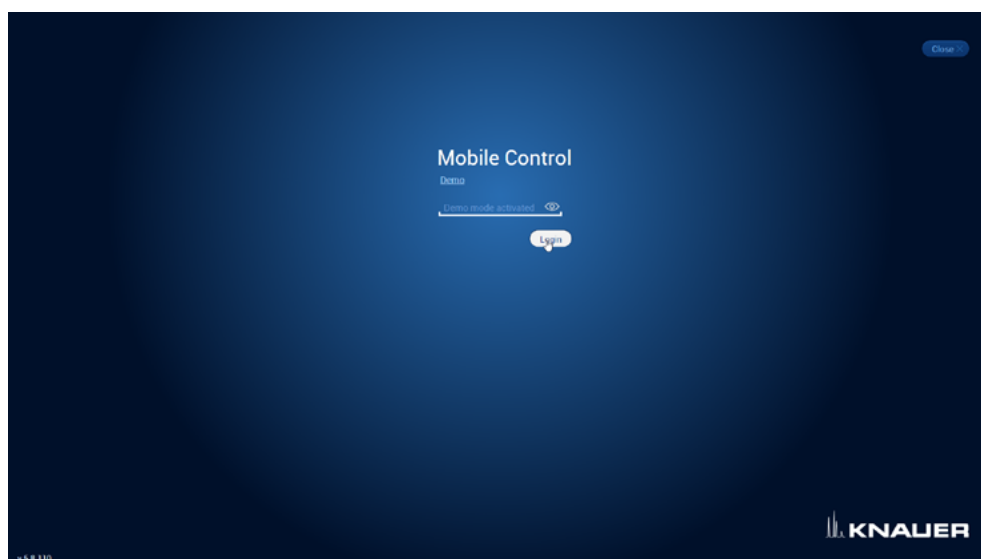

Fig. 3-10 Log into Demo mode
3. Add the serial number of your Mobil Control license before sending. You find it on the device card, delivered with your order. It begins with FSA (refer to Fig. 3-10).